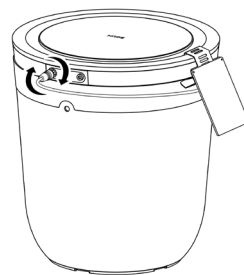

Figure 3
2. Twist the solar panel cable into the solar panel connector (see Fig. 3). Make sure that the connector is completely twisted in. If you install the water tank at a very sunny location, you can attach the solar panel directly to the tank. If the tank is at a rather shadowy location, we recommend mounting the solar panel at a sunnier place (e.g. the balcony railing).